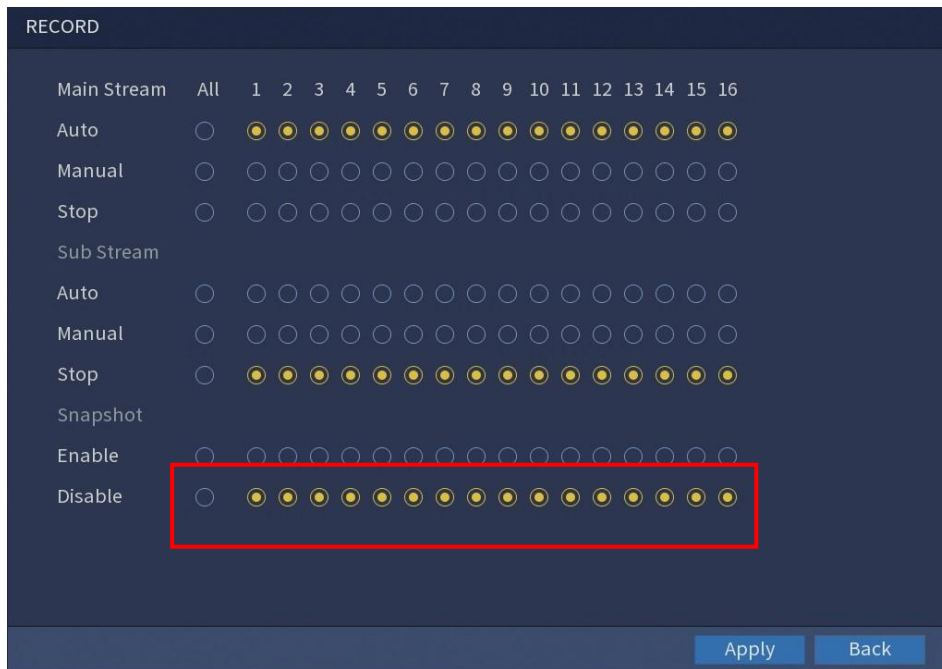

Figure 5-59
3. In the **Snapshot** area, enable the snapshot for the channels if needed. See Figure 5-59.